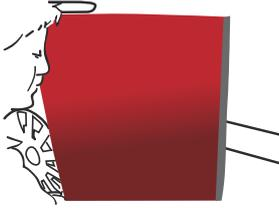

Figure 08
- › Remove all the liner. (FIG. 08)